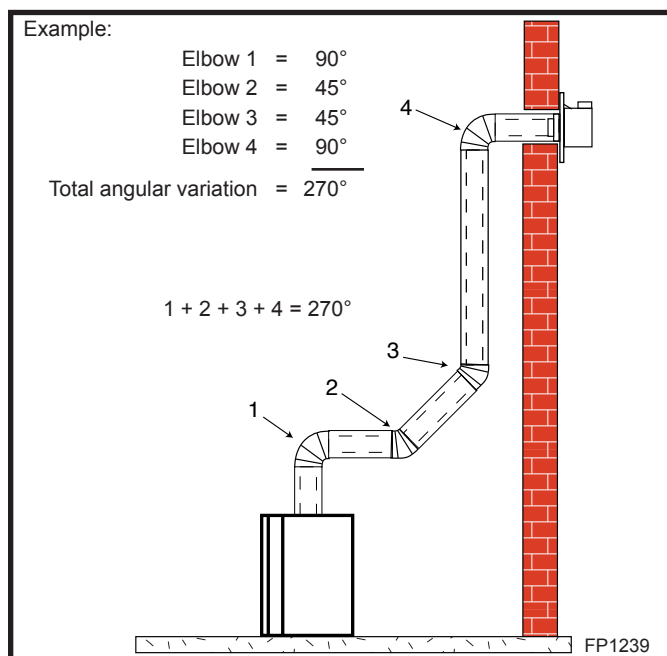

Fig. 17 Maximum number of elbow degrees.
- The maximum number of 45° elbows permitted per installation is six (6). These elbows can be installed in either the vertical or horizontal run.
- The maximum number of elbow degrees in a system is 270°. (Fig. 17)